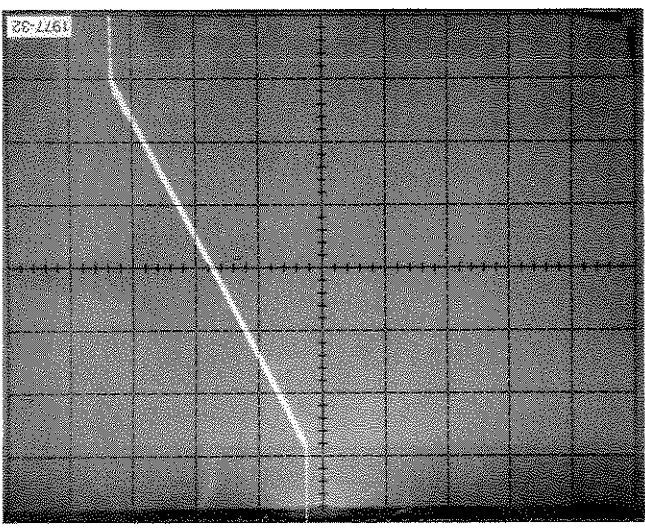

Fig. D-3. Gain curve for the LM380.
- Calculate the gain by dividing  $\Delta$ horizontal by  $\Delta$ vertical. The specified limits are 40 to 60 V/V (see Fig. D-3).